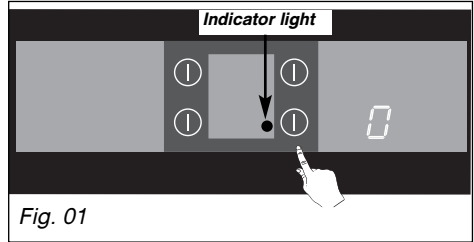

Fig. 01
- You selection is confirmed by a beep and a flashing **0** indication (Fig. 01).